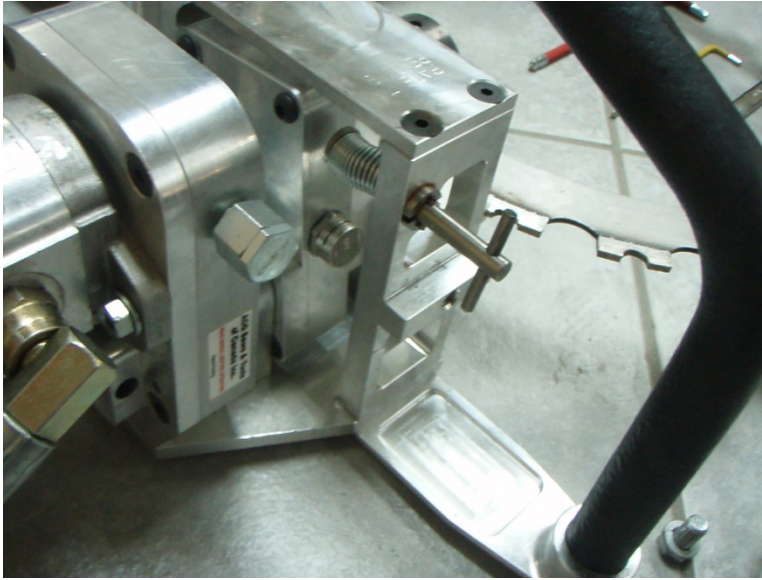

Figure 3
Step 3: Relieve transmission assembly tension by pulling t-handle out and turning 90 degrees (figure 3)